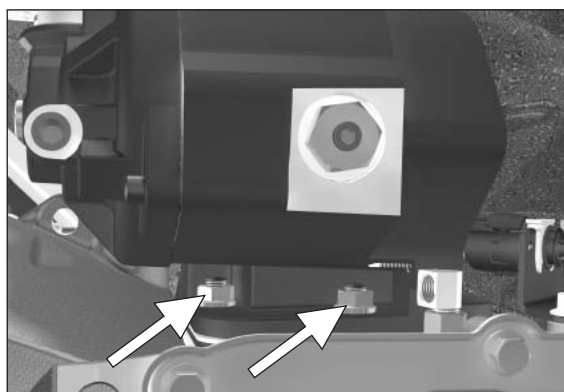

Figure 54
12. Install the bottom two self-locking nuts. **DO NOT** tighten down at this time (**Fig. 54**).